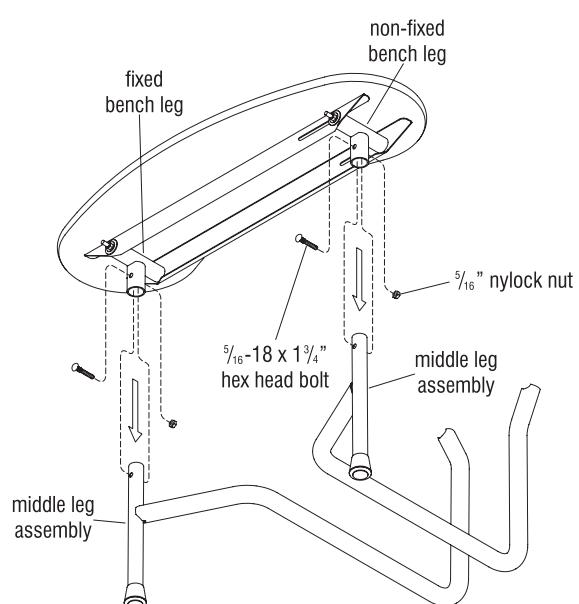

Figure 7
3. Once the table is in the storage position, attach the "fixed bench leg" to the table's middle leg assembly. Next, slide the "non-fixed bench leg" on the opposite end of bench into position so that tube can be inserted inside the upright of the other middle leg assembly (Figure 7).
4. Fasten down the bench to the table leg using a supplied $5/16$ " bolt and nylock nut. Tighten nut and bolt until the nut stops against the pipe. The parts will need to rotate during the opening and closing of the table so make sure not to over-tighten. Bolt head must be face away from the table (Figure 7).
5. Next, align the hole of the "non-fixed bench leg," to the table's mid leg. Fasten the bench down to the table leg using a $5/16$ " bolt and nylock. Tighten nut and bolt until the nut stops against the pipe. The parts will need to rotate during the opening and closing of the table so make sure not to over-tighten. Bolt head must be face away from the table (Figure 7).